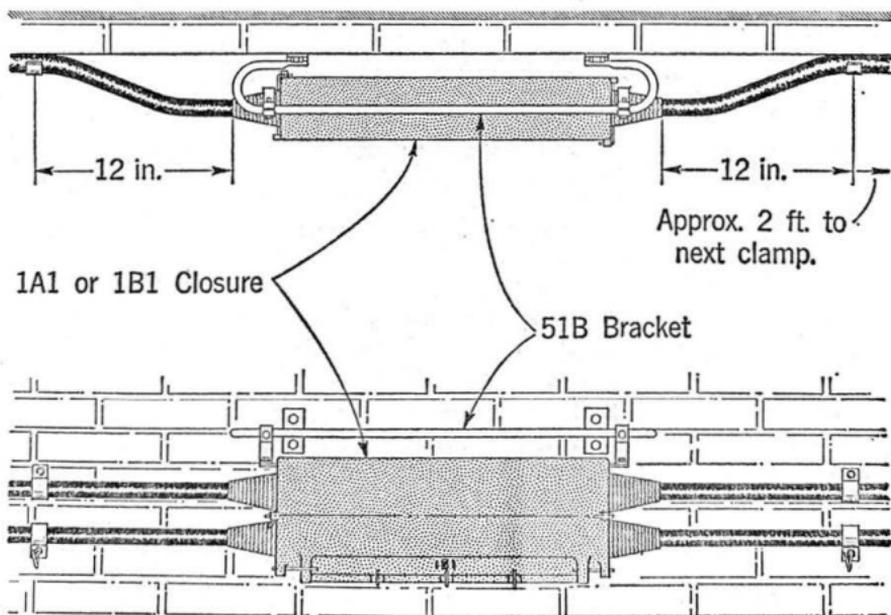

Fig. 16
4.09 Fig. 16 illustrates the mounting of a 1A1 or 1B1 Closure.